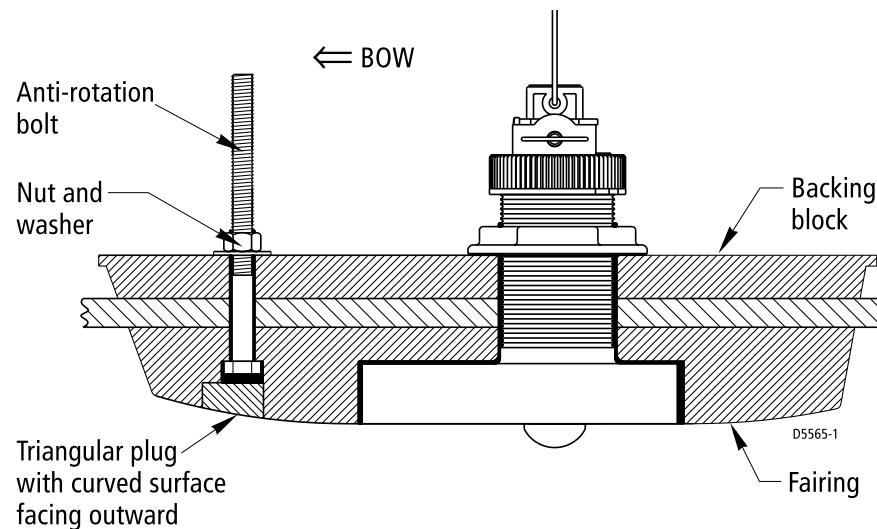

Figure 2-14: Using a Fairing and Backing Block
5. Apply a 1/16" (2mm) thick layer of marine sealant to the anti-rotation bolt, 1/4" (6mm) higher than the combined thickness of the fairing, hull, backing block, washer, and nut. This will ensure that there is marine sealant on the threads to seal the hull and hold the nut securely in place (see Figure 2-14).